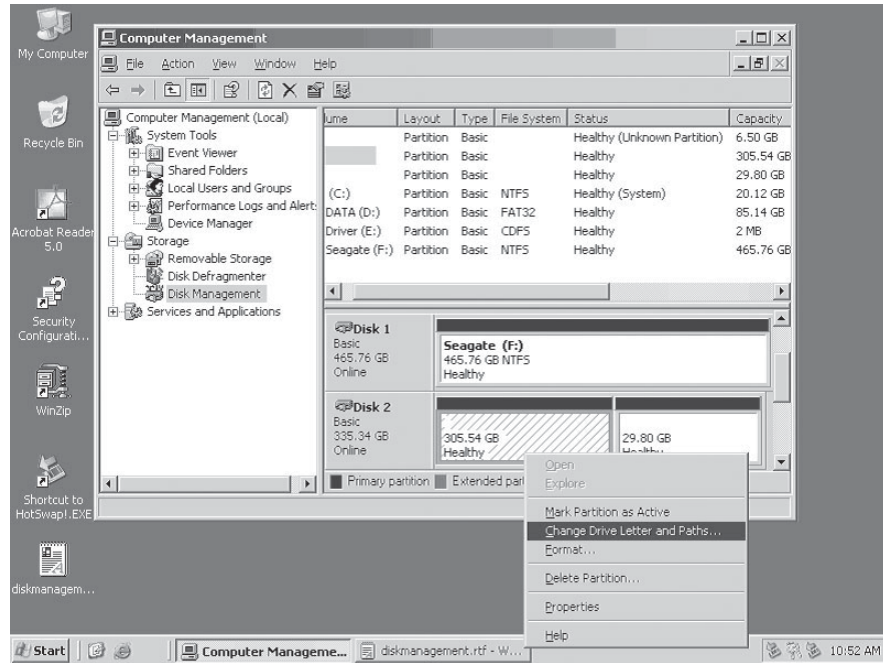

Figure 3
2. Right click on the **Healthy** disk (the disk without a name and drive letter), then click **Change Drive Letter and Paths**. See Figure 3.